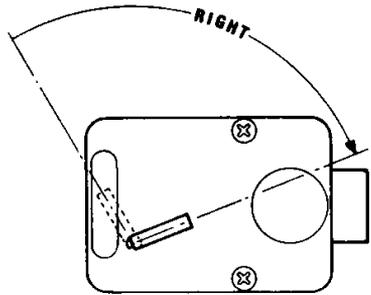

Figure 1
2. With the last number set at the changing index, hold the dial securely and insert the change key in the keyhole in the back of the lock. Make sure the wing is entirely inside the lock and comes to a positive stop (see Figure 1) before turning the key.
6. Turn the dial to the LEFT stopping when the third number is aligned with the CHANGE Index, the SECOND time. Holding the dial in this position, turn the change key back to the LEFT and remove it. (See Figure 1.) The new combination you have chosen is now set in the lock,